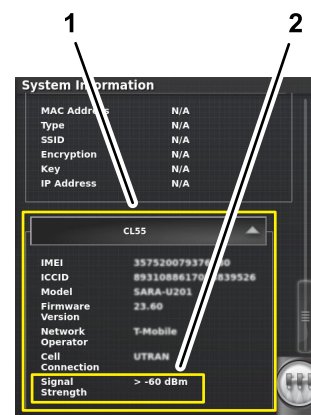

Figure 211
2. In the system information screen, use the scroll bar to navigate to the CL55 icon (Figure 211).
3. Press the CL55 icon to display the signal strength information (Figure 211), and verify that the modem signal strength is between -60 dBm and -99 dBm.